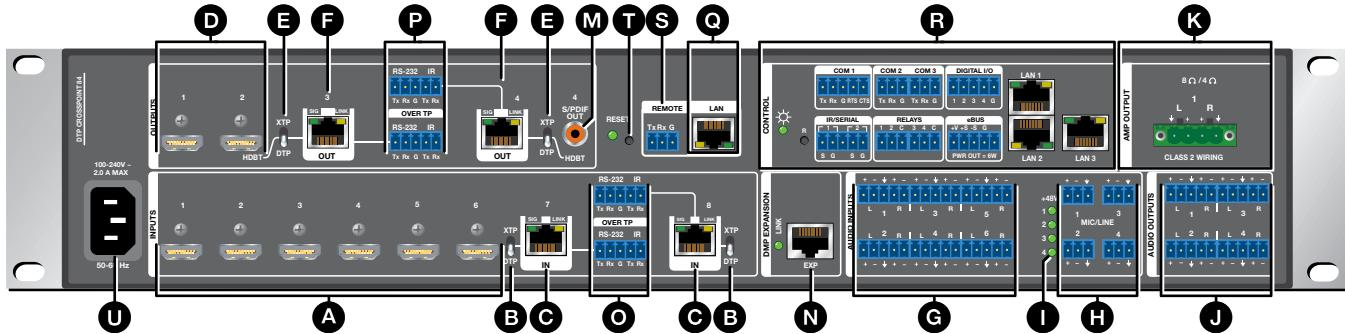
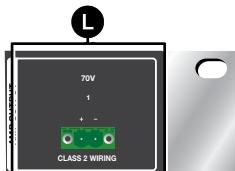

Figure 2. DTP CrossPoint 84 Matrix Switcher Rear Panel
Figure 3. DTP CrossPoint 84 IPCP MA (Mono Audio) Amplified Output Block
The non-IPCP, SA, and MA models have similar features, with differences in the control connections and Amplified Output block only. Figure 2 shows the rear panel of a composite DTP CrossPoint 84 model, featuring elements of different models. Figure 3 shows only the Amplified Output block portion of the DTP CrossPoint 84 IPCP MA rear panel.
NOTE: Figure 2 is a composite that shows features of all models. Actual models can have either item **Q** or item **R**, but not both. Models with **R** also have either item **K** or **L** (see figure 3).
- A HDMI Inputs 1 through 6** (see figure 2 on page 11) — Plug HDMI digital video sources into the matrix switcher via these HDMI connectors. These connectors can also accept DVI video with appropriate adapters. See HDMI connectors on page 16 for pin assignments and to use the LockIt HDMI Cable Lacing Bracket to secure the connector to the transmitter.
- E Output TP function switches, outputs 3 and 4** (see figure 2 on page 11) — These switches tailor the output signals for output 3 and 4 as follows:
J **Audio Outputs 1 through 4** (see figure 2 on page 11)— Connect audio devices such as an audio amplifier or powered speakers, to these 5-pole, 3.5 mm captive screw connectors. These connectors output unamplified, line level audio, whether it is tied from an analog input or de-embedded from an HDMI input (see Analog audio input connectors on page 19 to wire the connectors).
Q LAN port (non-IPCP model, see figure 2 on page 11) — If desired, for IP control of the switcher, connect the matrix switcher to a PC or to an Ethernet LAN via this RJ-45 connector. See TP connectors on page 17 to wire the connector. You can use a PC to control the networked switcher from anywhere in the world using any of the following methods: